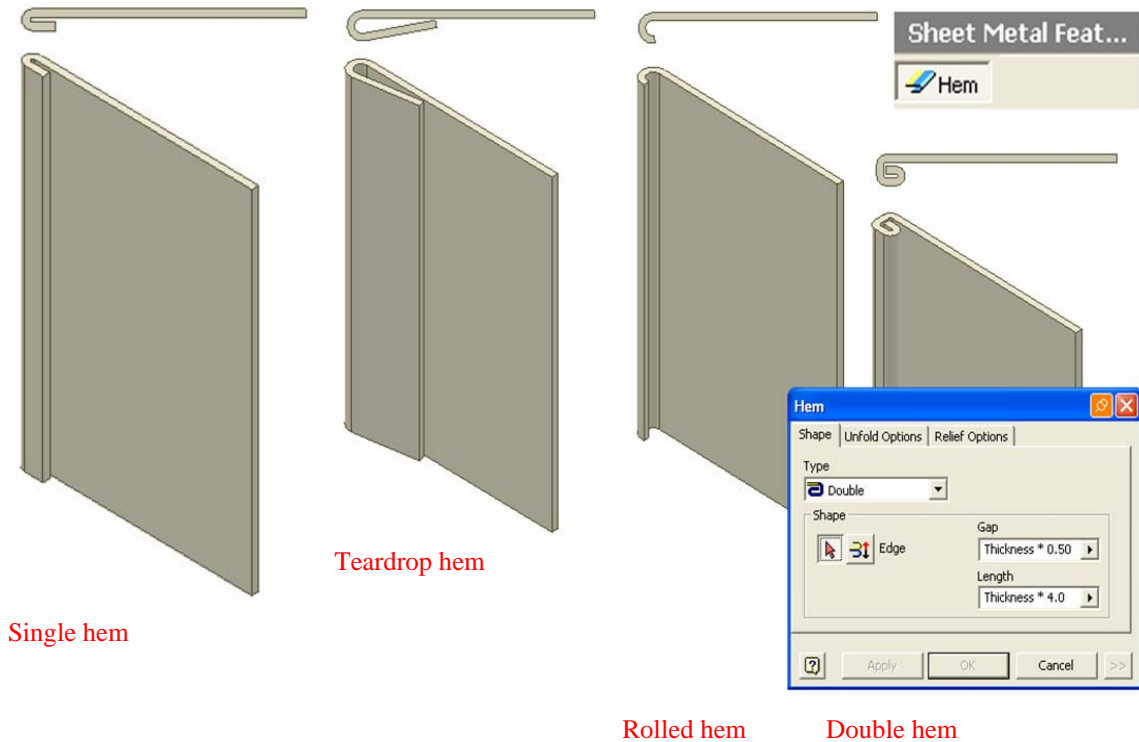

Figure 1-5B: Various types of hems (3D models created in Autodesk Inventor).
- **Hemming**: a way of stiffening the edges sheet-metal parts with bended and interlocked extra material on both end edges; its includes single and double-hemming (*Figure 1-5B*). This parameter shall be ignored in most of the Modules.